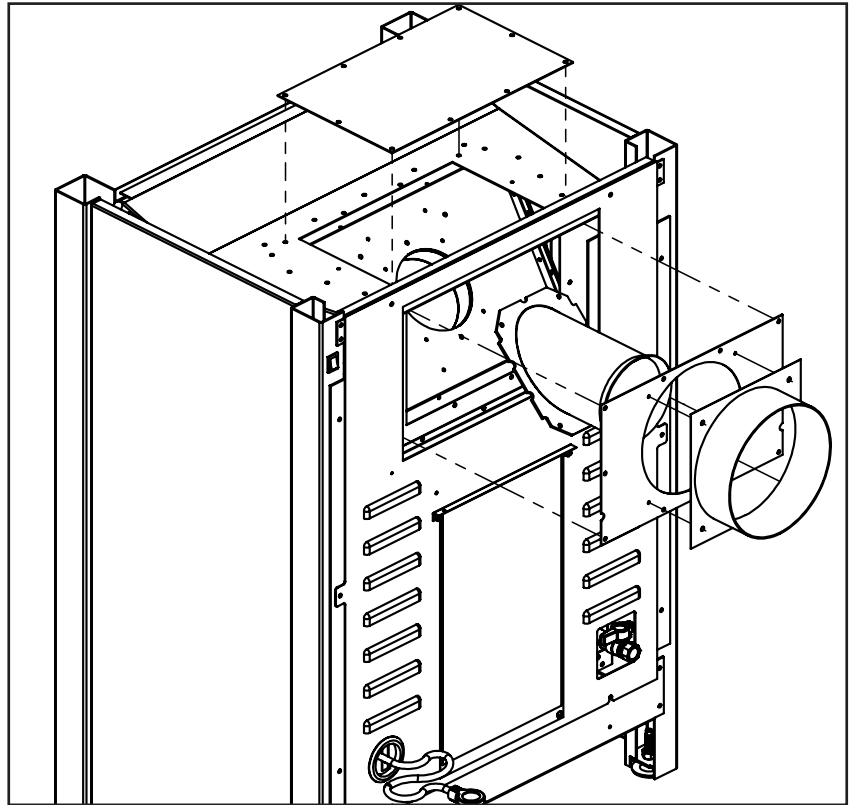

Figure 25. Vent Conversion - Step 3
**Step 3:** Switch the removed parts around as shown in Figure 25 and re-install all 28 screws. To correctly install the base plate keep the locating notch on each side at the bottom. Also note the exhaust spigot uses a lower set of holes when setup as a rear vent.